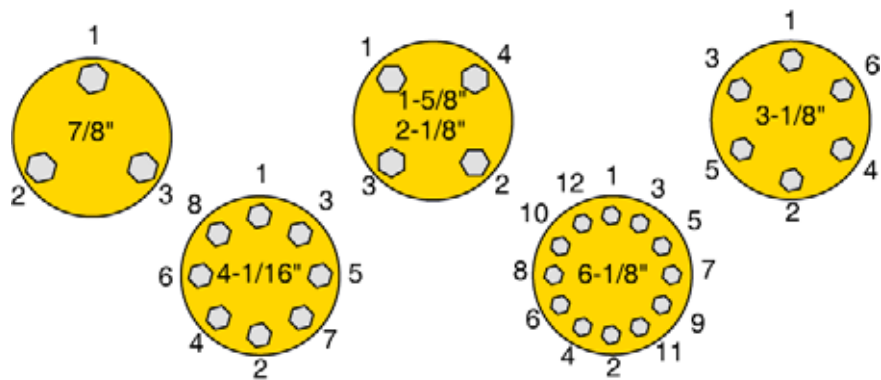

Figure 3. Flange Bolt Tightening Sequences
| Figure 3 | Flange Bolt Tightening Sequences | 5 |
- j. First snug the flange bolts in the sequence shown in Figure 3 on page 5, then tighten them to the torque specification shown in Table 1 on page 5.